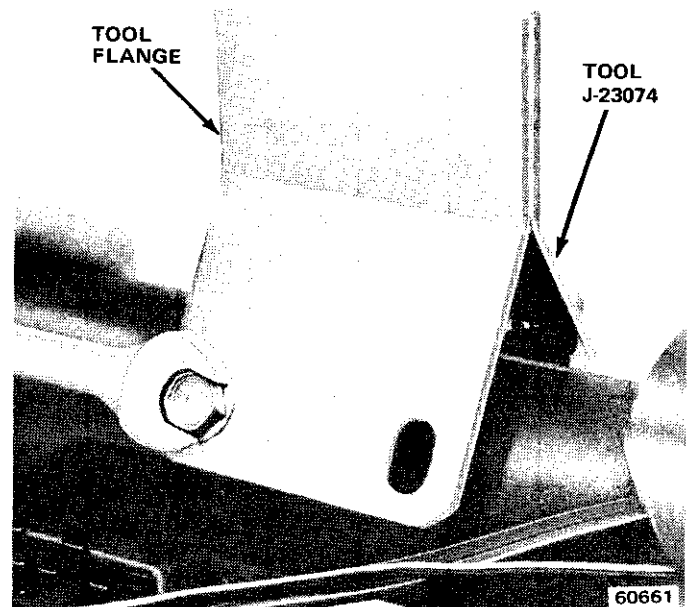

Fig. 2J-5 Steering Column Support Fixture Installation
**NOTE:** Steering column removal is not necessary if only the lock plate cover, lock plate, steering shaft snap ring, canceling cam, turn signal switch, upper bearing preload spring, or lock cylinder are to be serviced (fig. 2J-3). However, the column must be removed in order to service any of the remaining components. If the column is removed, remove the column-to-instrument panel mounting bracket and install Support Fixture J-23074 (fig. 2J-5). Mount the column in a vise by clamping the support fixture flange in the vise.
- (1) Place front wheels in straight-ahead position.
- (2) Disconnect battery negative cable.
- (3) Cover painted areas of column.
- (4) Remove steering wheel.
- (5) Remove lock plate cover. Use two screwdrivers to pry cover off lock plate and out of column.
- (6) Compress lock plate and unseat steering shaft snap ring as follows: